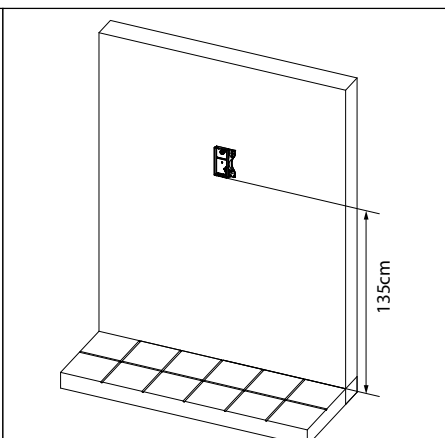
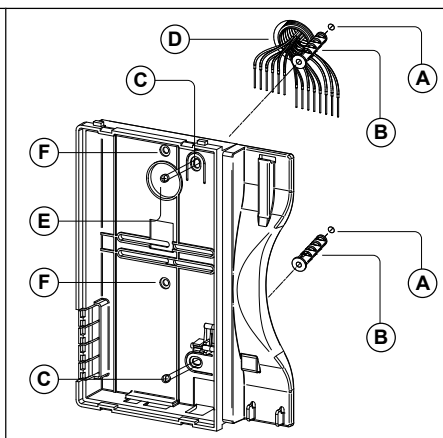

Fig. 2
Fig. 3
2. Put the base of the unit on the wall at approx 135cm from the finished floor to mark the points for the fixing holes "**A**" (**Fig. 2**) remembering that the wires "**D**" (**Fig. 3**) must be fed through the hole "**E**" (**Fig. 3**). If you use the flush mounting box 503, embed it into the wall vertically at approx. 140cm from the finished floor and the base.
3. Following **Fig. 3**, make the holes "**A**", insert the wall plugs "**B**" and fix the base with the screws "**C**" feeding the wires "**D**" into the hole "**E**". If you have used the box 503, fix the base to the wall through the holes "**F**" using the screws "**C**".